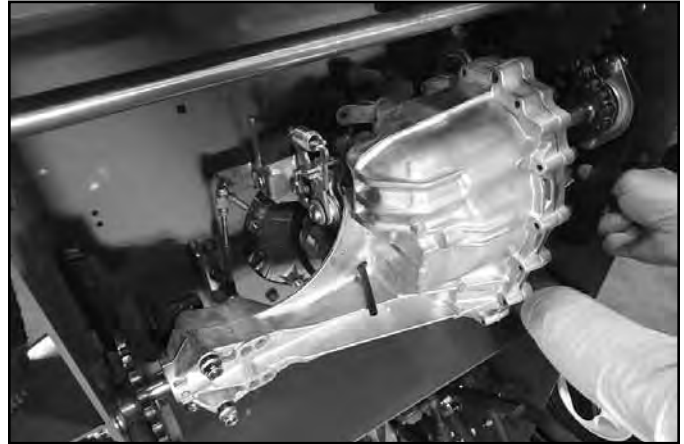

Fig. 125
1. With the transmission belt on the engine pulley and the idler pulley, loosely install the transmission using the previously removed mounting hardware (Fig. 125).